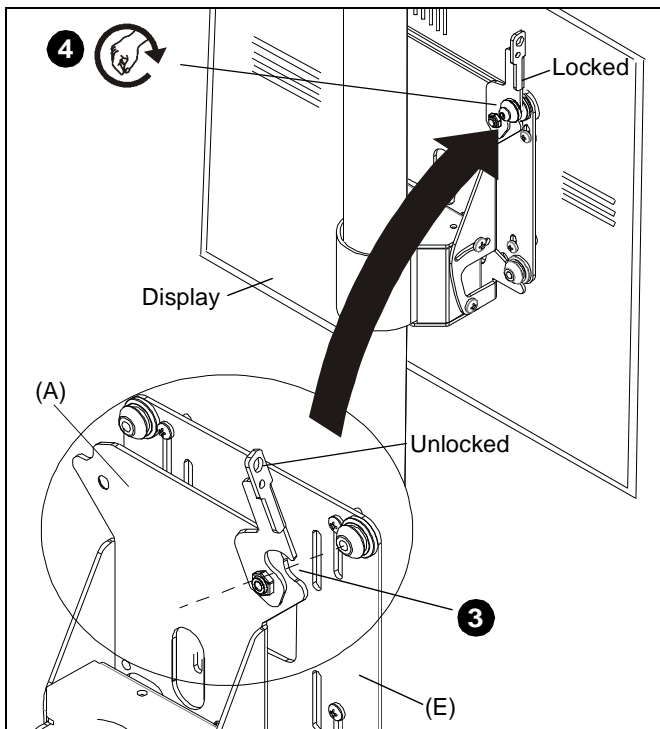

Figure 8
3. Lift and maneuver display with attached FSB bracket (E) so that mounting buttons on interface bracket fit into button openings on FSP (A). (See Figure 8)
4. Engage FSP latching flag, locking display in place (See Figure 8).